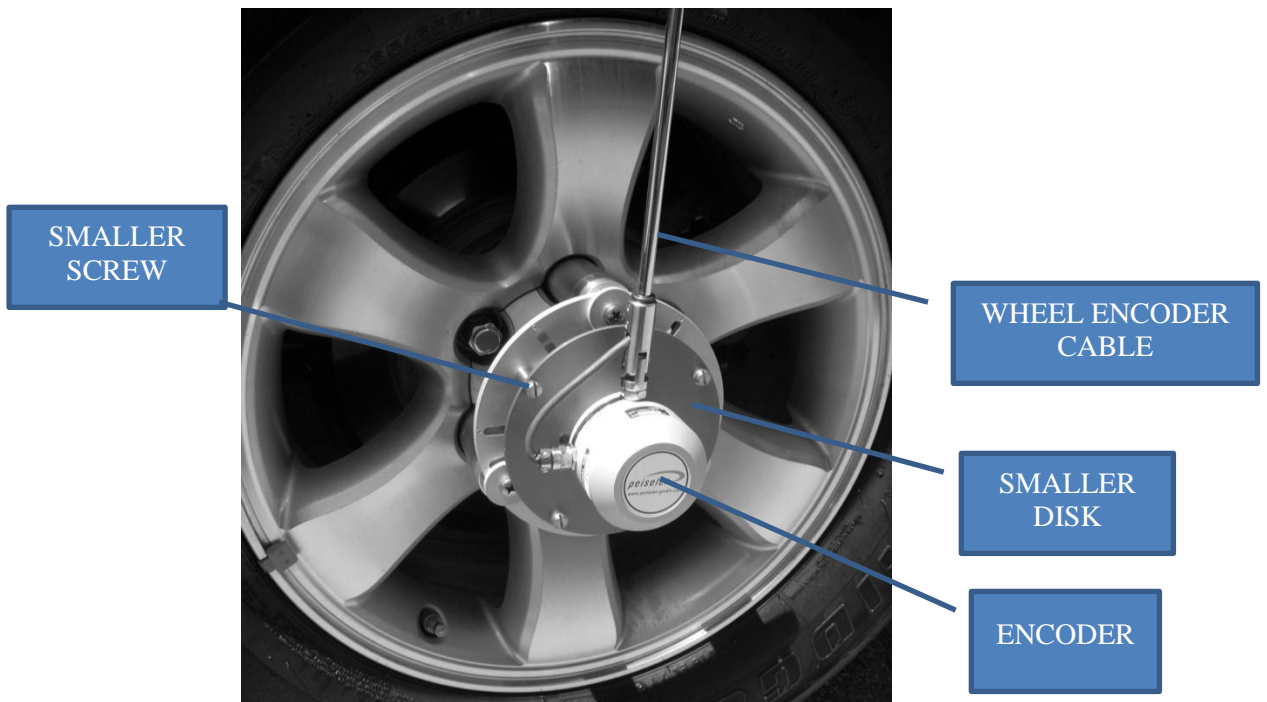

**Fig. 2-10 – Encoder wheel kit view**
6. The encoder kit (see Fig. 2-10) is composed by: